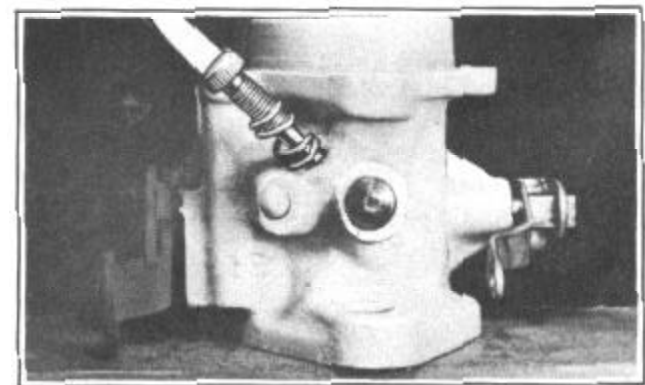

FIGURE 19
12. Remove idle adjustment screw and spring, Figure 19. Check for groove on seating surface.